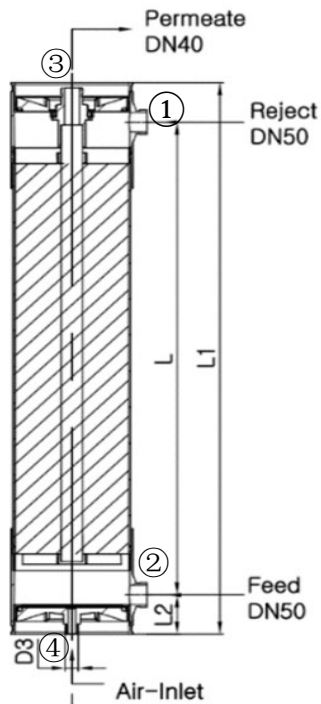

Figure 4. iSep 500+ dimensional diagram of module
2. Harness installation (outside the scope of supply): Determine the installation position and open two holes in the cassette according to Figure 4). Use a strap bolt to fix one end of the strap, then secure the other end after finishing the installation.